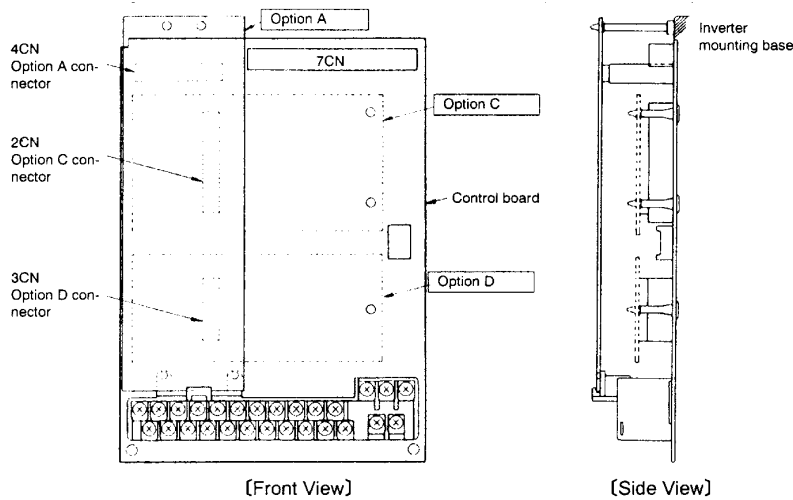

Figure 7.29 Installation Locations for Option Cards
3. Check the Option Card's installation location (A, C, or D). (See Figure 7.29.)